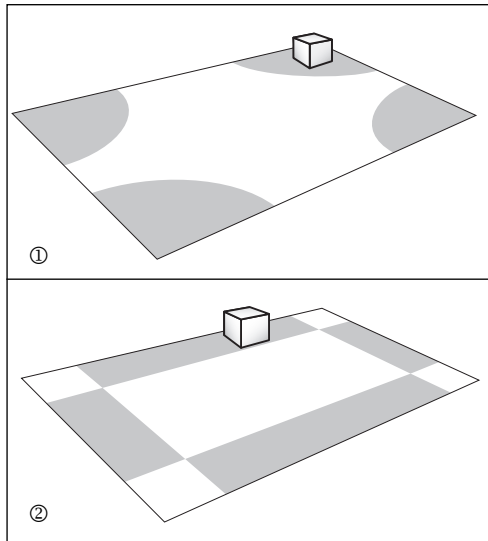

Fig. 4
We recommend positioning your subwoofer close to the wall, between the front speakers. Corner placement, Fig. 4 (①) provides the most bass, but sometimes at the expense of accuracy. A subwoofer placed near a wall (②) usually provides a good balance of quantity and accuracy.